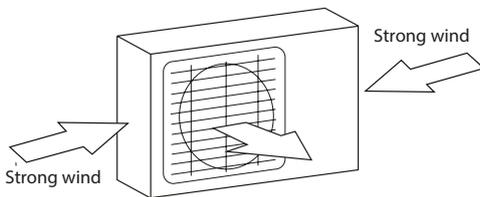

Fig. 5.1
- ✔ If the location is exposed to strong winds (for example: near a seaside), the unit must be placed against the wall to shelter it from the wind. If necessary, use an windbreaks (or similar). (See Fig. 5.1 & 5.2)